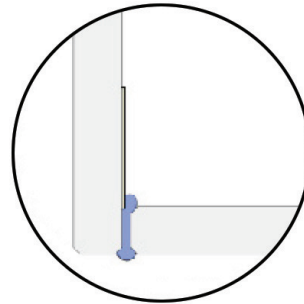

FIG 11.
- Gently place glass to glass panel into siliconed floor channel and tilt gently upwards until it joins to glass to wall panel (FIG 11). Ensure there is no side to side movement while placing panel as this will smear silicone.